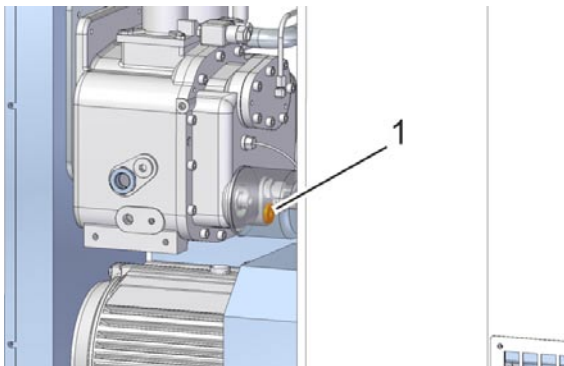

Fig. 36: Oil drain
5. Open the oil drain (Fig. 36/1).
6. Close the oil drain (Fig. 36/1).